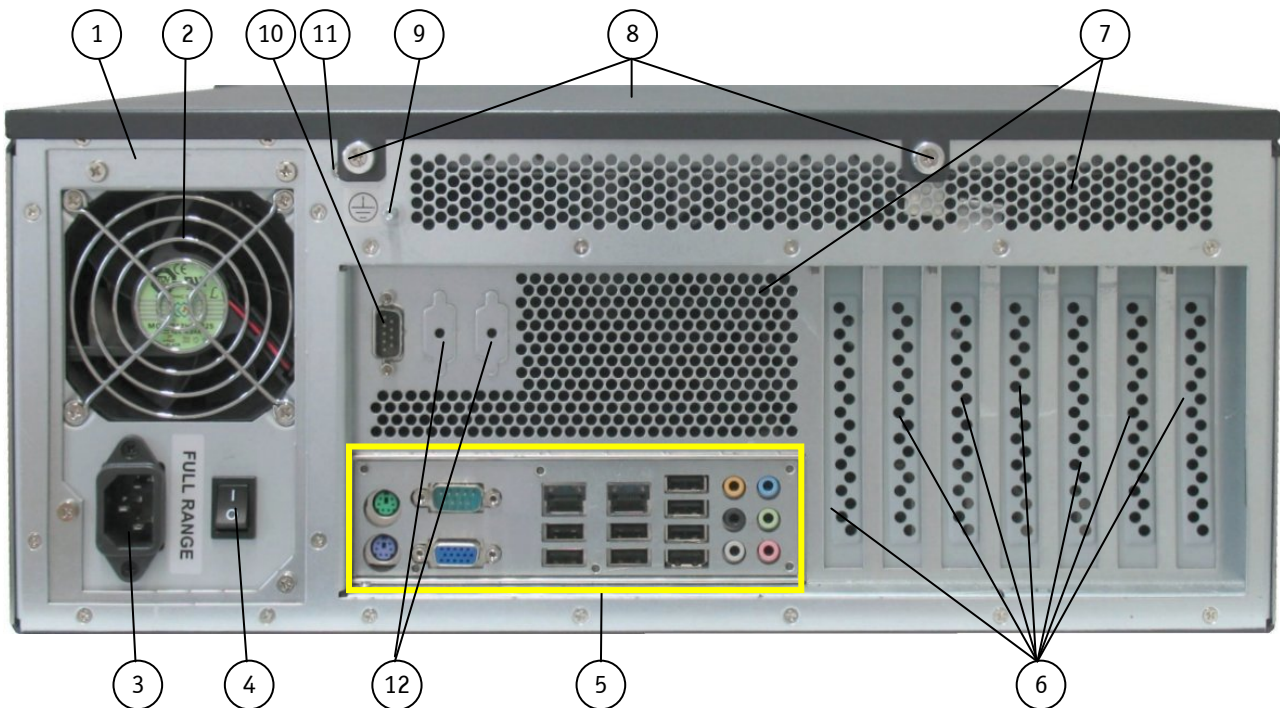
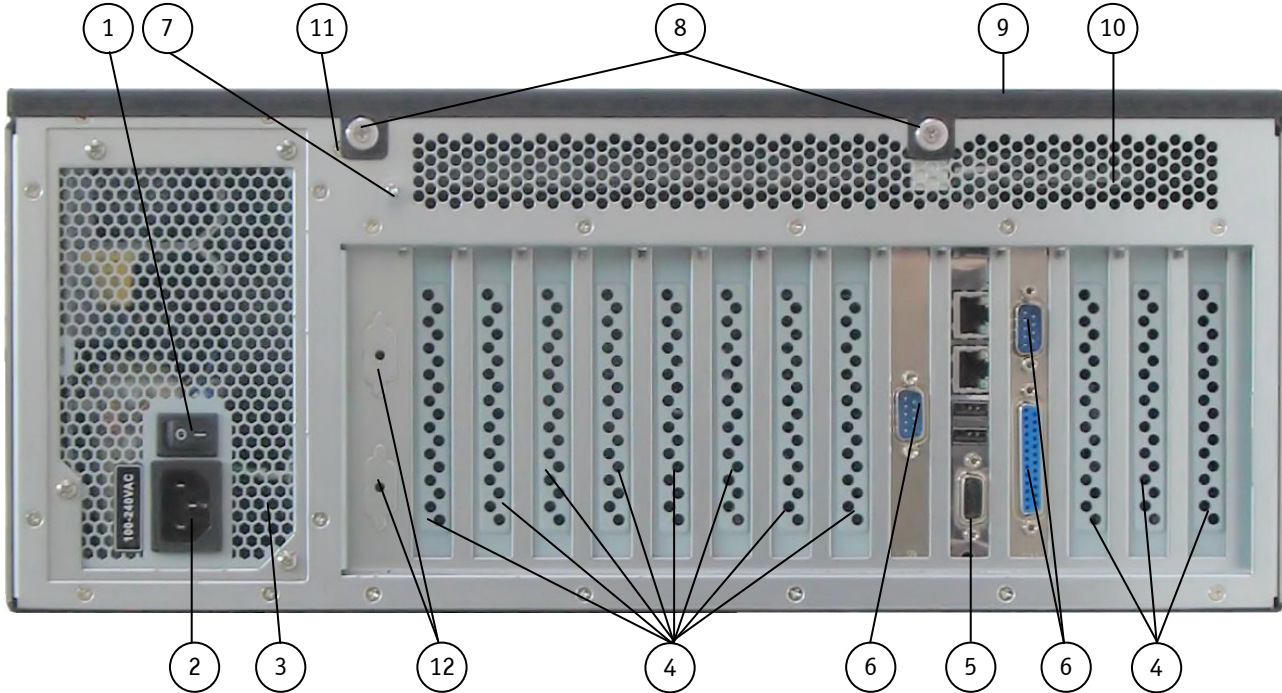

Fig. 16: Rear side of a KISS 4U V2 platform with motherboard and AC wide range PSU
Fig. 17: Rear side of a KISS 4U V2 platform with Single Board Computer (SBC) and AC wide range PSU
- The knurled screws (Fig. 16 and Fig. 17, pos. 8 and Fig. 29) on the rear side
Depending on the installed CPU card (motherboard or SBC) the on-board interfaces such as serial interfaces can be routed to the rear panel (refer to Fig. 16, pos. 10 and pos. 12 and Fig. 17, pos. 6 und pos. 12). You can connect peripheral devices to these connectors.
The grounding stud is located on the rear side of the KISS 4U V2 platform (see Fig. 16, pos. 9 and Fig. 17, pos. 7).